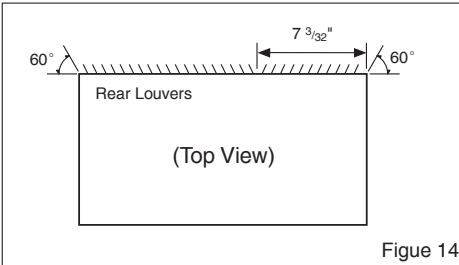

Figure 14
- 1** Redirect the louvers at the back of the wall sleeve to 60° angle as shown in the Figure 14. The use of pliers is recommended.